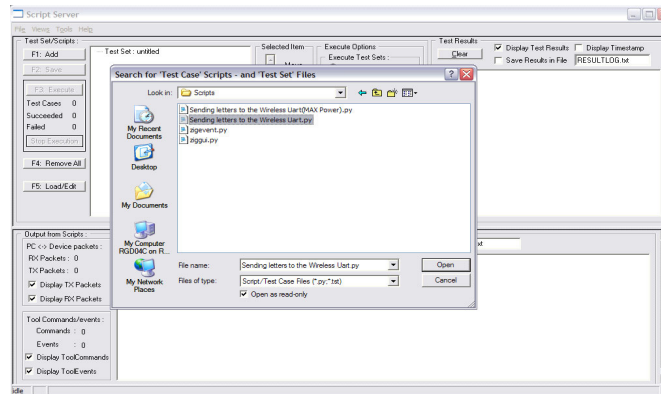

Figure 47. Loading the Script
10. The Script Server window appears as shown in Figure 47. Load the `sendingletterstotheWirelessUart.py` Python script, which is located in the following directory: